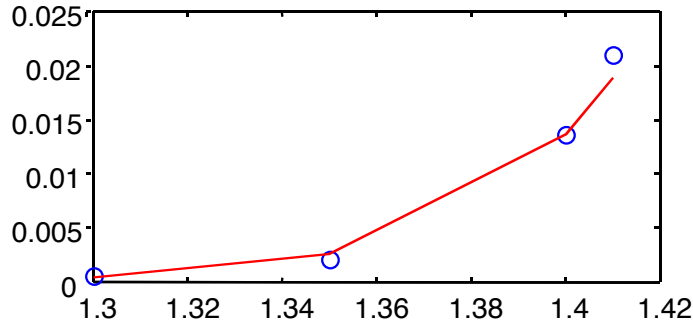

Fig. 1. Linear regression fit (solid line) to LED data (circles) in i - v format. Horizontal axis =voltage (V); vertical axis = current (A).
The Matlab™ script "lin_reg_diode.m" in Appendix B finds the values of a_0 and a_1 that give the best fit, (in the least-squares sense), of the data in Table I to the line described by (4). Note that lin_reg_diode.m employs the Matlab™ backslash, \backslash , operator to compute the optimal linear regression (or least-squares) fit. Fig. 1 shows the fit obtained. Table II lists the values of a_0 and a_1 , as well as the values of I_s and V_T obtained from a_0 and a_1 by the following equations: